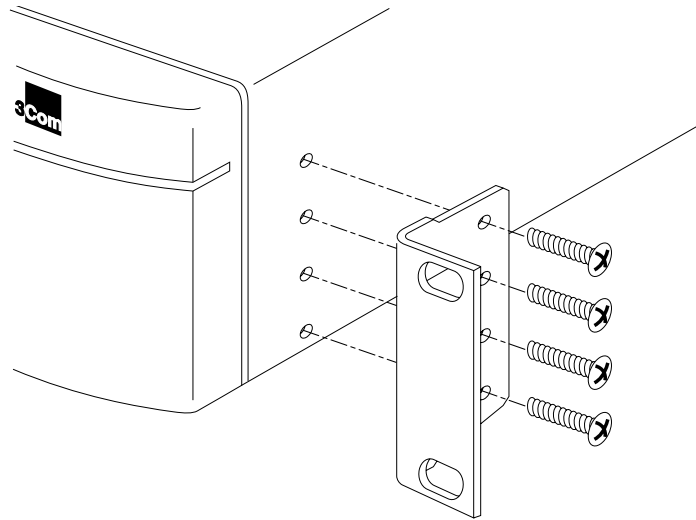

Figure 2-1 Fitting the mounting bracket
- 4 Insert the four screws and fully tighten with a suitable screwdriver, as shown in Figure 2-1.